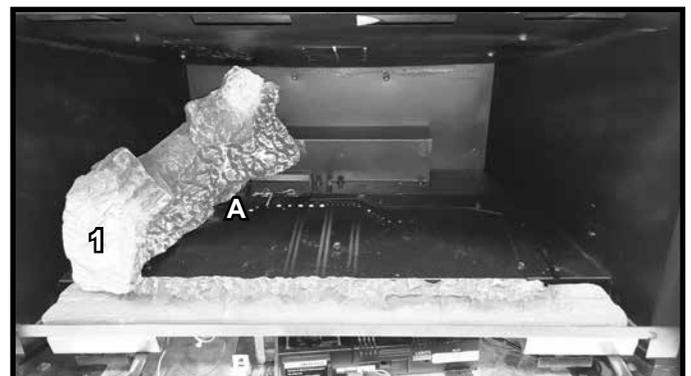

Figure 3 Log #1 Installed
**LOG #1:** Locate the cutout on Log #1, place it over the pilot hood and set the log on the left side of the firebox. Rotate Log #1 clockwise until it contacts log pin A and the firebox wall. Ensure that the end of Log #1 is in contact with the air scoop. See Figure 3.